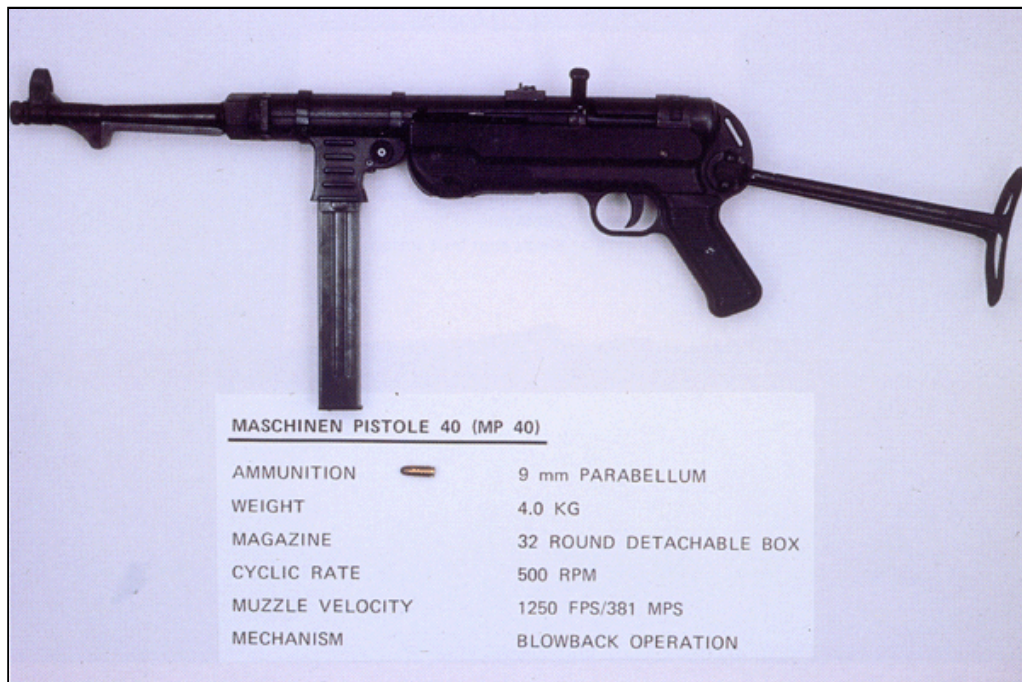

Fig. 1-9. The Maschinengewehr 40 (Schmeisser)
**Submachine Gun (Machine Pistol).** The need for a lightweight equivalent of a machine gun was not met on a large scale until the appearance in World War II of the machine *pistol*, better known in English-speaking countries as the submachine gun. The classic example of this type of weapon is the Maschinenpistole 38/40, or, as it is better known, the Schmeisser (Figure 1-9). Unlike the single-shot rifle or the machine gun, both of which fired full-power cartridges, the submachine